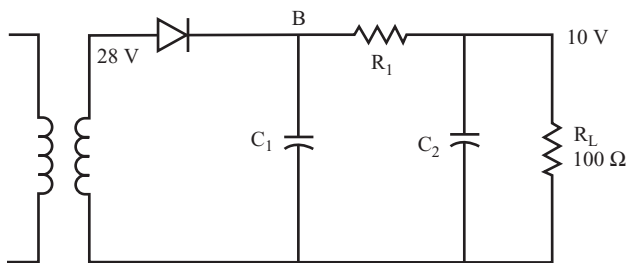
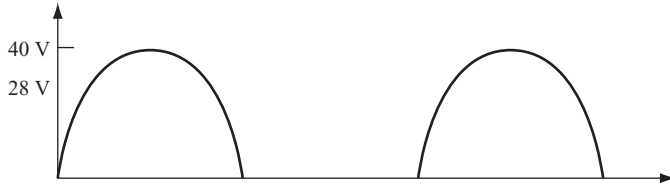

FIGURE 11.40
FIGURE 11.41
- 19** The output from the secondary coil of the circuit shown in Figure 11.40 is a $28 V_{\text{rms}}$, 60 Hz sine wave. For this circuit, you need 10 volts DC across the 100-ohm load resistor.
20 Figure 11.41 shows the waveform after the diode has rectified the sine wave for the half-wave rectifier circuit shown in Figure 11.40.
21 The average DC voltage at point B in the circuit shown in Figure 11.40 is approximately 90 percent of the peak value of the sine wave from the secondary coil, or $V_B = 0.9 \times 40$ volts = 36 volts. R_1 and R_L act as a voltage divider to reduce the 36-volt DC level to the required 10 volts DC at the output.